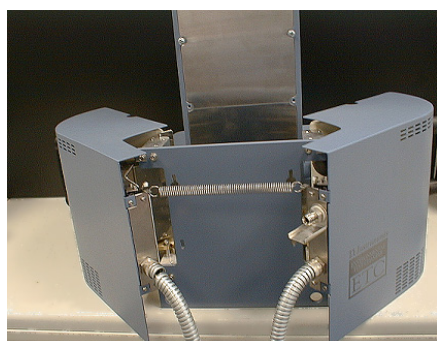

Figure 5.16
5. Open the ETC oven (see Figure 5.16) and then use the handles on the oven doors to lift it onto the two top screws. Lightly tighten these screws.